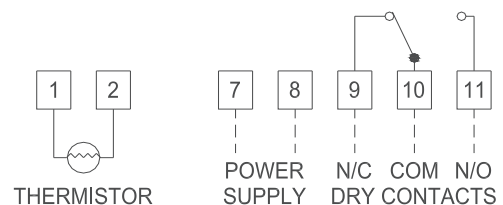

Figure 2: DLC Wiring
6. Remove the back cover to wire the T-DLC (see Figure 2, T-DLC wiring).